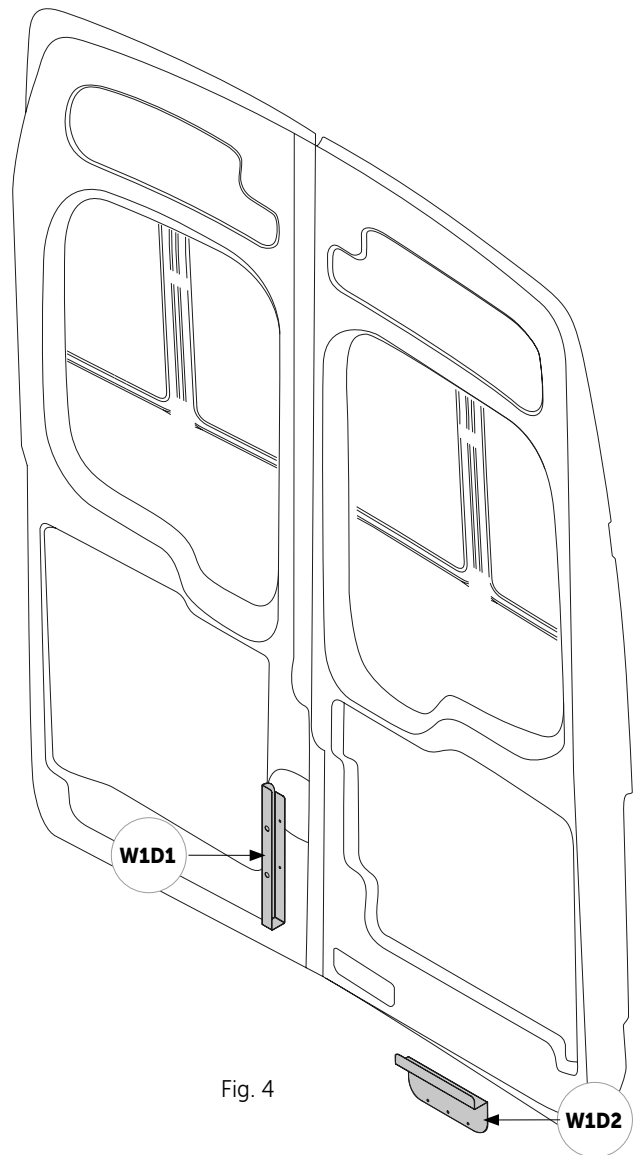
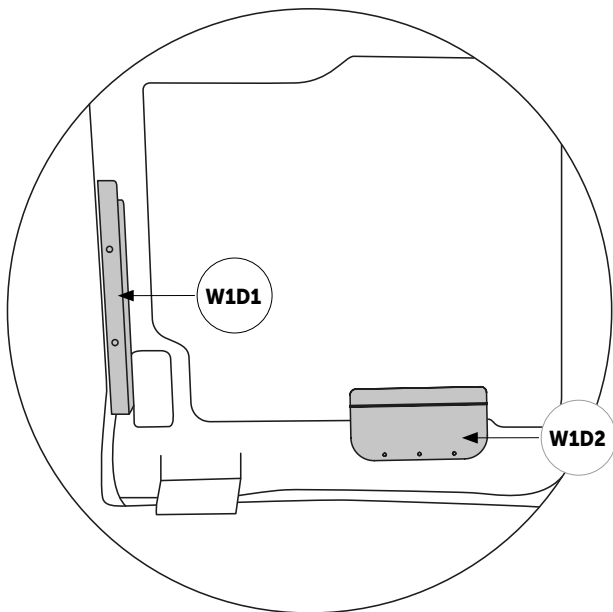

Fig. 4
Fig. 5
1. Position **W1D1** so that it is vertically flush with the side of the door (Fig. 4 and Fig. 5) and the matching cut-out covering the embossing (Fig. 6). Fit **W1D2** in the door embossing (Fig. 4, Fig.5). Mark the screw hole locations. Drill the holes and then screw in **W1D1** and **W1D2**.